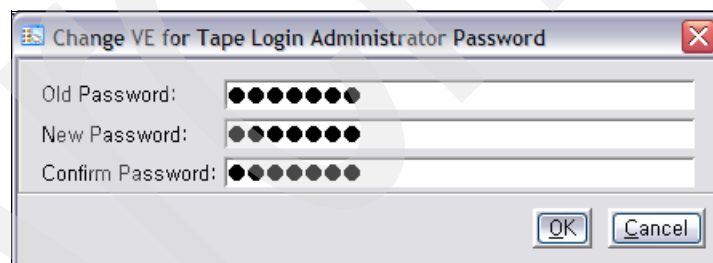

Figure 6-26 Change VE for Tape Login Administrator Password
2. In the Change VE for Tape Login Administrator Password window (Figure 6-26) specify: